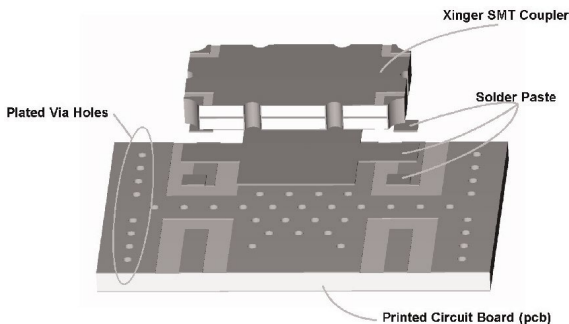

**Figure 2: Solder Paste Application**
**Solder Paste:** All conventional solder paste formulations will work well with Anaren’s Xinger II surface mount components. Solder paste can be applied with stencils or syringe dispensers. An example of a stenciled solder paste deposit is shown in Figure 2. As shown in the figure solder paste is applied to the four RF pads and the entire ground plane underneath the body of the part.